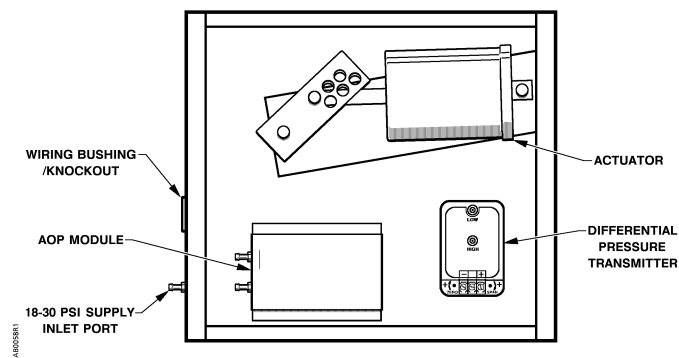
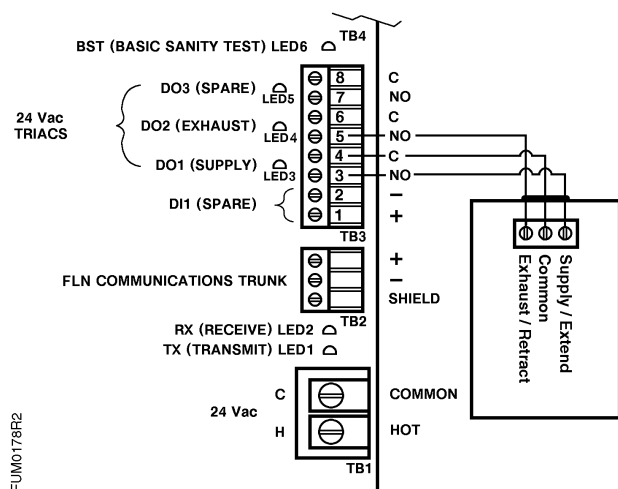

Figure 9. Equipment Locations.
Figure 10. AO-P Module Wiring Connections.
2. With the equipment enclosure cover removed, locate the Lab AO-P module and the differential pressure transmitter. (Figure 9).
3. Connect a three conductor 20 AWG cable for the Lab AO-P Module through the wiring bushing/knockout. (Figure 9). If desired, the wiring bushing can be removed and a standard 1/2-inch conduit fitting may be installed in its place. See Figure 10 for the wiring connections to the Lab AO-P Module from the Fume Hood Controller Board.